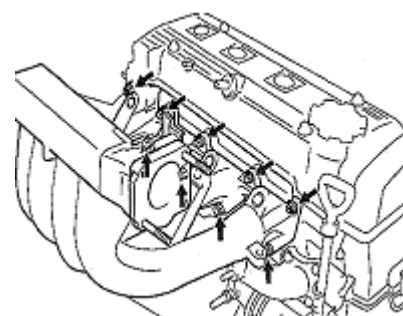

Figure 27
36. Remove injector assembly and remove intake manifold. Remove 2 bolts and intake manifold support and remove 7 bolts, 2 nuts, intake manifold and gasket. See (Figure 27).